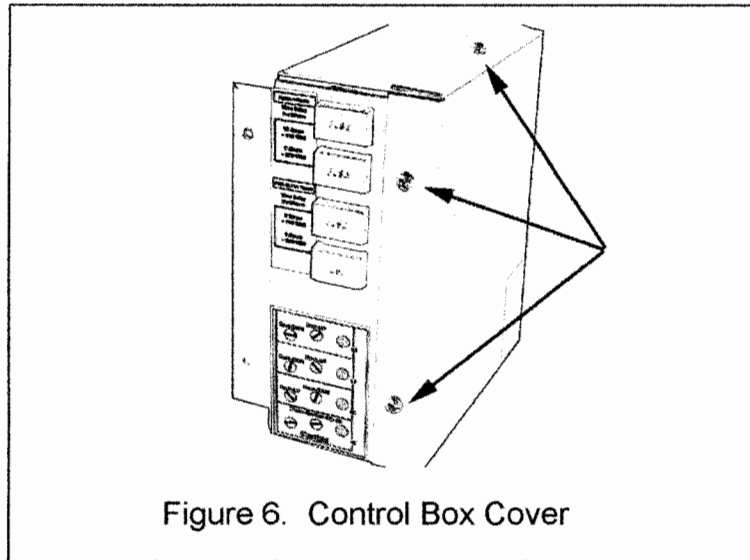

Figure 6. Control Box Cover
1. Remove the 3 screws and the Control Box Cover from the control box. (Fig 6)
3. After the chair reaches the limit move the jumper from JP1 "SEATUP" to JP4 "HOLDER" on Control Board. (Fig 6)